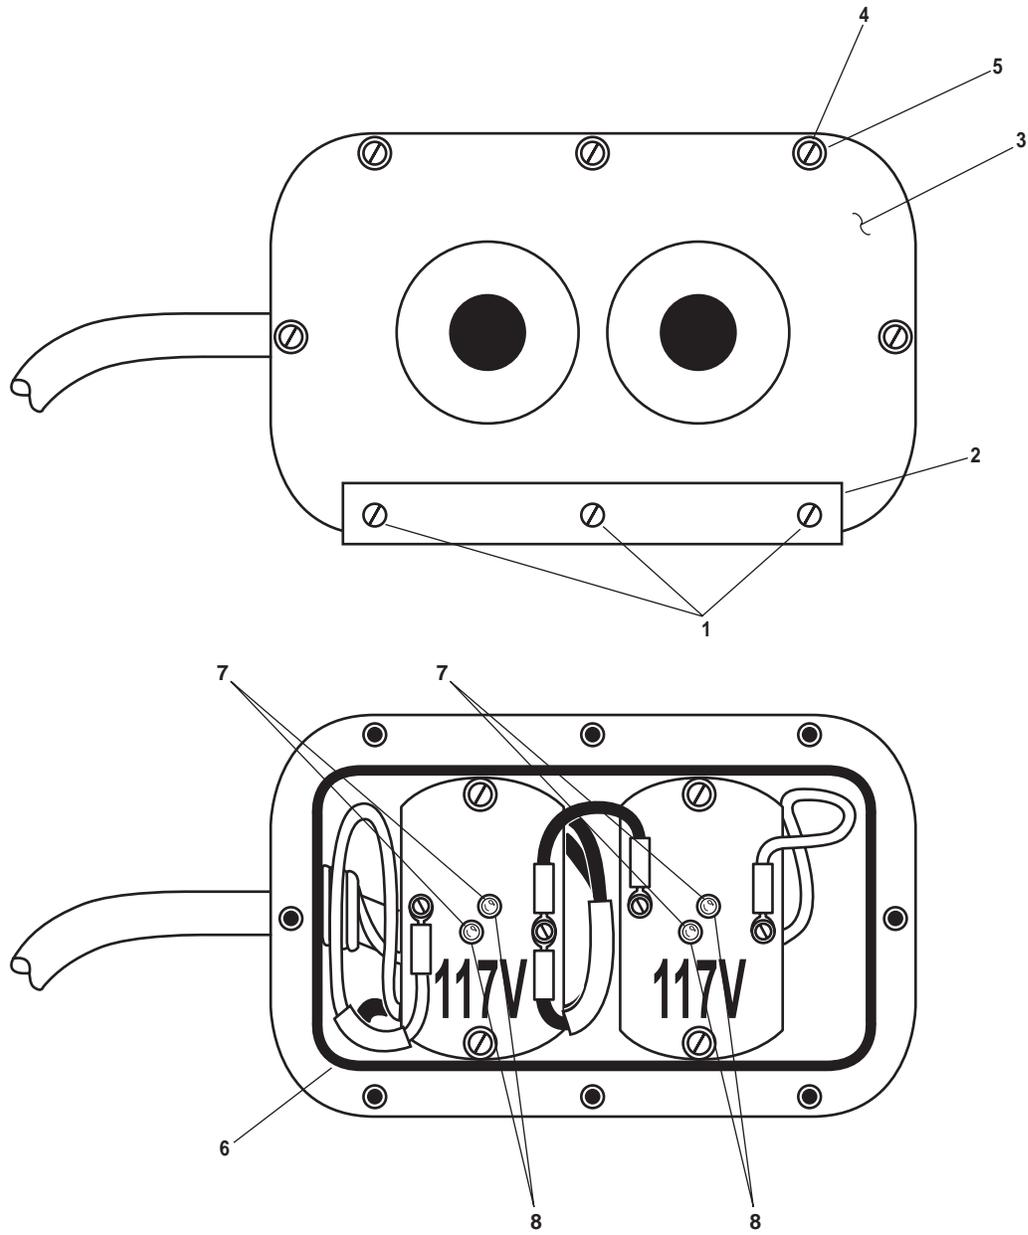

Figure 6. Diverter Valve Indicator Assembly
3. Remove the three screws (figure 6, item 1) and nameplate (figure 6, item 2) from the bottom of the diverter valve indicator assembly cover (figure 6, item 3).
4. Remove the five screws (figure 6, item 4) and five washers (figure 6, item 5) from the bottom of the diverter valve indicator assembly cover (figure 6, item 3).
5. Remove the diverter valve indicator assembly cover (figure 6, item 3) and O-ring (figure 6, item 6). Discard the O-ring.
6. Unscrew the desired bulb (figure 6, item 7) from the applicable lamp holder (figure 6, item 8).
1. Screw the desired bulb (figure 6, item 7) into the applicable lamp holder (figure 6, item 8).
2. Position a new O-ring (figure 6, item 6) in the diverter valve indicator assembly cover (figure 6, item 3).
3. Install the diverter valve indicator assembly cover (figure 6, item 3) and secure it with five screws (figure 6, item 5), five washers (figure 6, item 5), three screws (figure 6, item 1), and nameplate (figure 6, item 2).
4. Close the door (figure 6, item 3) and tighten the seven hand nuts (figure 6, item 1) securing the sampling/sensor assembly (figure 6, item 2).